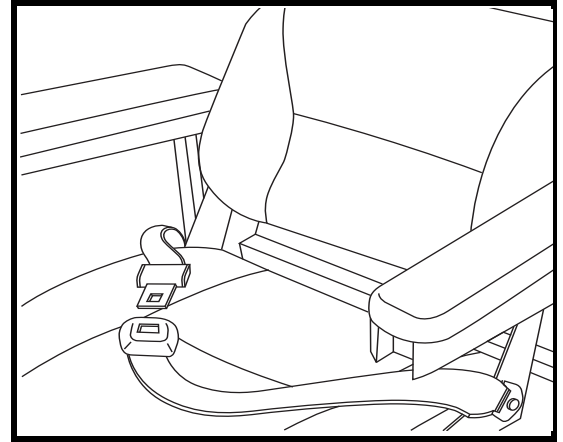

Figure 20. Positioning Belt Adjustment
Your power chair may be equipped with a positioning belt that can be adjusted for operator comfort. See figure 20. The positioning belt is designed to support the operator so that he/she does not slide down or forward in the seat. The positioning belt is not designed for use as a restraining device.
1. Once seated, insert the metal tab on one side of the belt into the plastic housing on the opposite side until you hear a click. See figure 20.